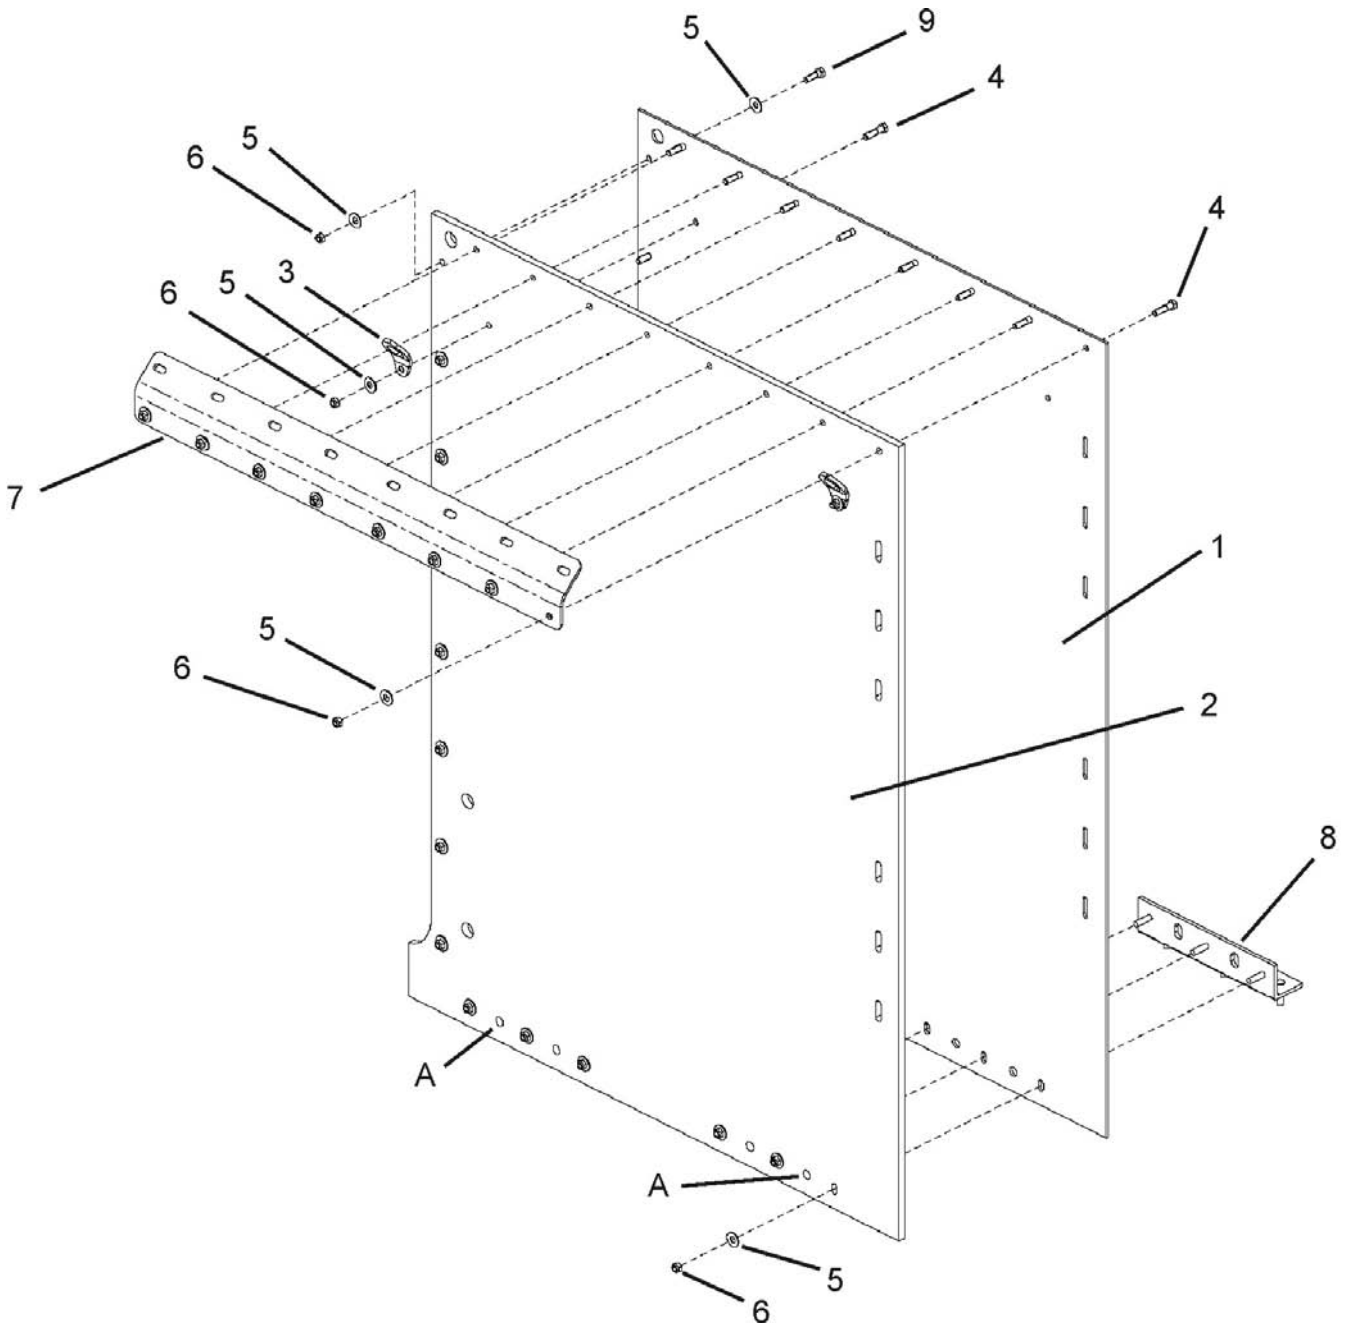

Figure 3-19. Left Aft Side Panels Pre-Assembly.
2. Pre-assemble left aft side panels as follows (see Figure 3-19):
- a. Align left aft side panel (1) with left aft side panel (2) and install two lift brackets (3) and secure each with one bolt (4), flat washer (5), and locknut (6). Verify hole-alignments using drill bushings as gauge in holes marked "A". Torque bolts to 35 lb-ft.
- b. Install the roof-side armor panel (7) onto left aft side panel assembly and secure it with eight bolts (4), flat washers (5), and locknuts (6). Torque bolts to 35 lb-ft.
- c. Install two 90-degree joiner brackets (8) onto left aft side panel assembly and secure each with three flat washers (5) and locknuts (6). Do not tighten locknuts at this time.
- d. Install eight bolts (9), sixteen flat washers (5), and eight locknuts (6) into left aft side panel assembly. Torque bolts to 35 lb-ft.